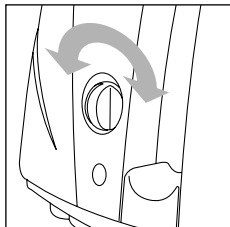

fig. 4
3. Set thermostat knob to the required temperature (fig.4). When the temperature set has been reached, signal lamp will go off.